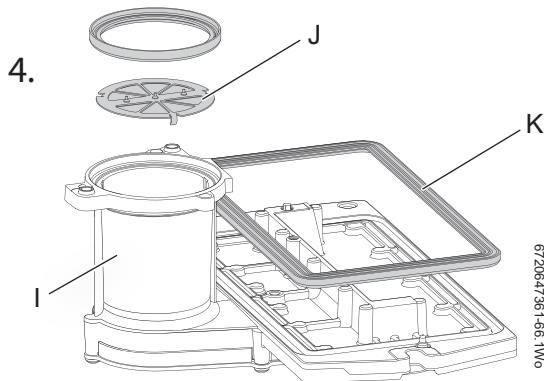

Fig. 64 Diaphragm
- ▶ Remove the burner (H).
- ▶ Ensure that a new seal (K) is used, refer to fig. 64.